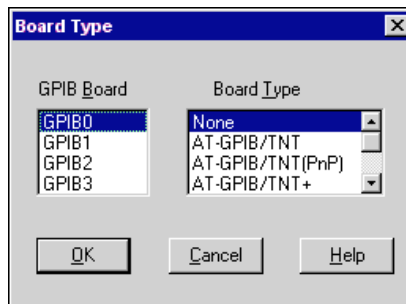

Figure A-1. Board Type Dialog Box
3. Click on the **Board Type** button and select **None** from the list that appears, as shown in Figure A-1. Click on the **OK** button to save the new **Board Type** setting.